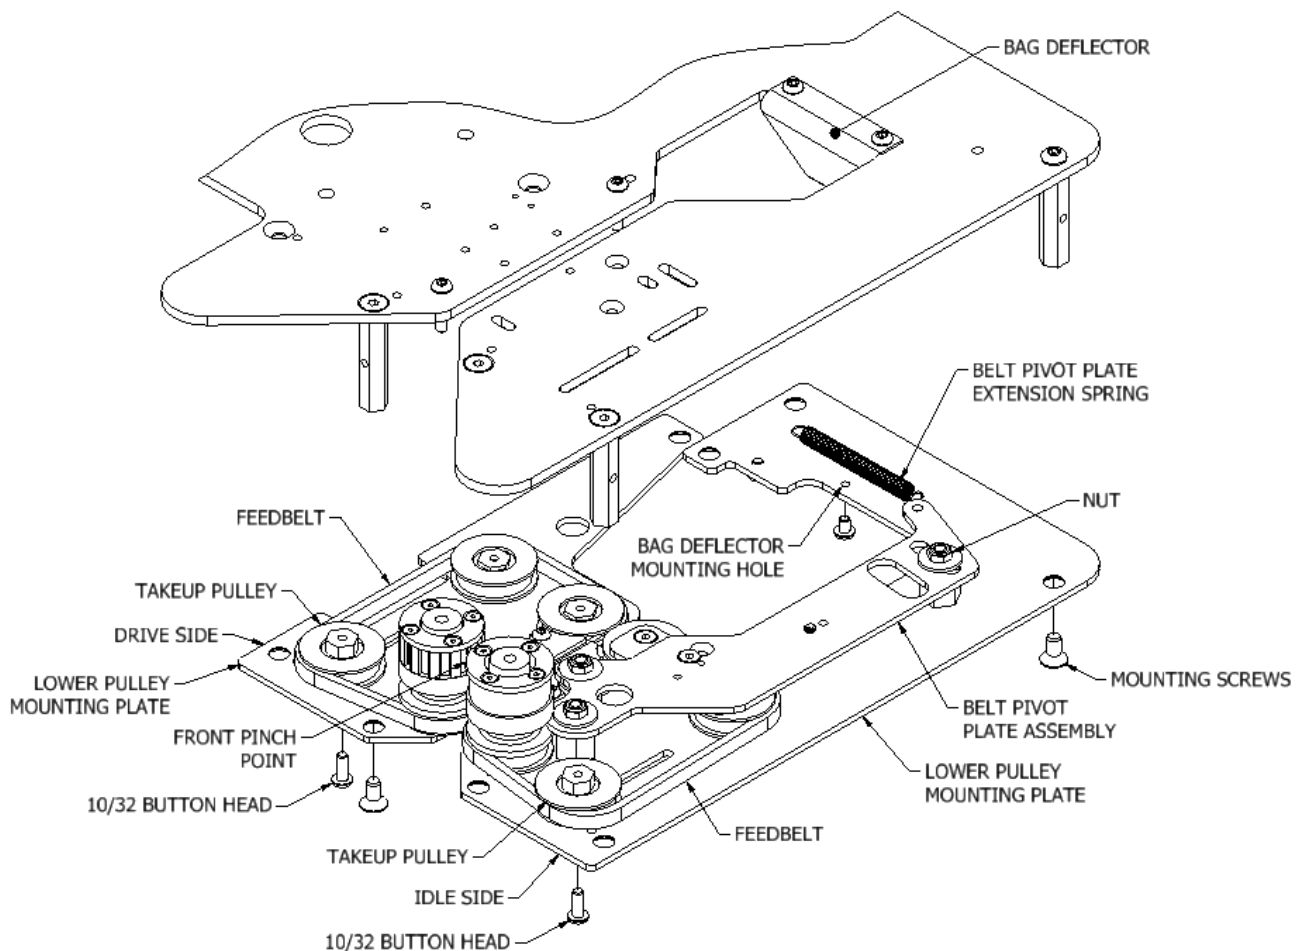

Figure 4.1
*Reference Figure 4.1*
- e) Locate and remove the three (3) lock nuts and nylon washers securing the belt pivot plate to the lower mounting plate.
- g) With the new belt installed, replace the belt pivot plate assembly and nylon washers. Secure with three (3) lock nuts. Be sure the belt pivot plate rotates freely on the pivot after the lock nuts are tightened. The lock nuts can be loosened slightly to allow the plate to pivot more freely.